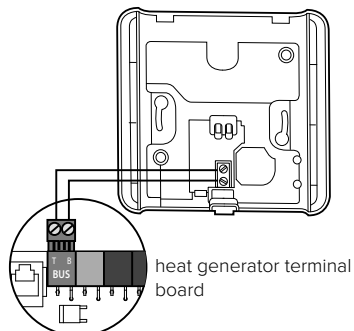

Fig. 13
- Connect the room sensor wire to the BUS terminal on the heat generator's terminal board (Fig. 13).